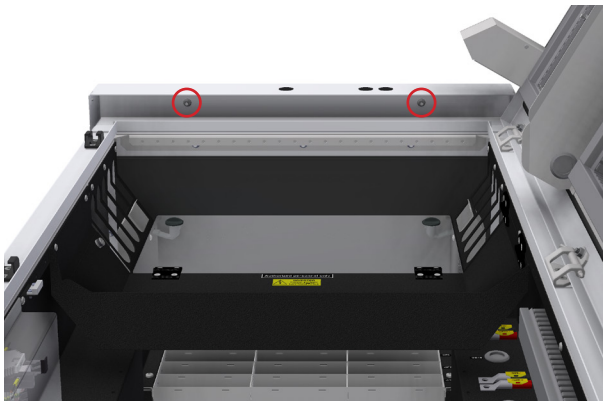

Figure 3.4 Unmount cabinet roof
- Unscrew 2x M6 nuts on front bottom roof side (see *Figure 3.4*).